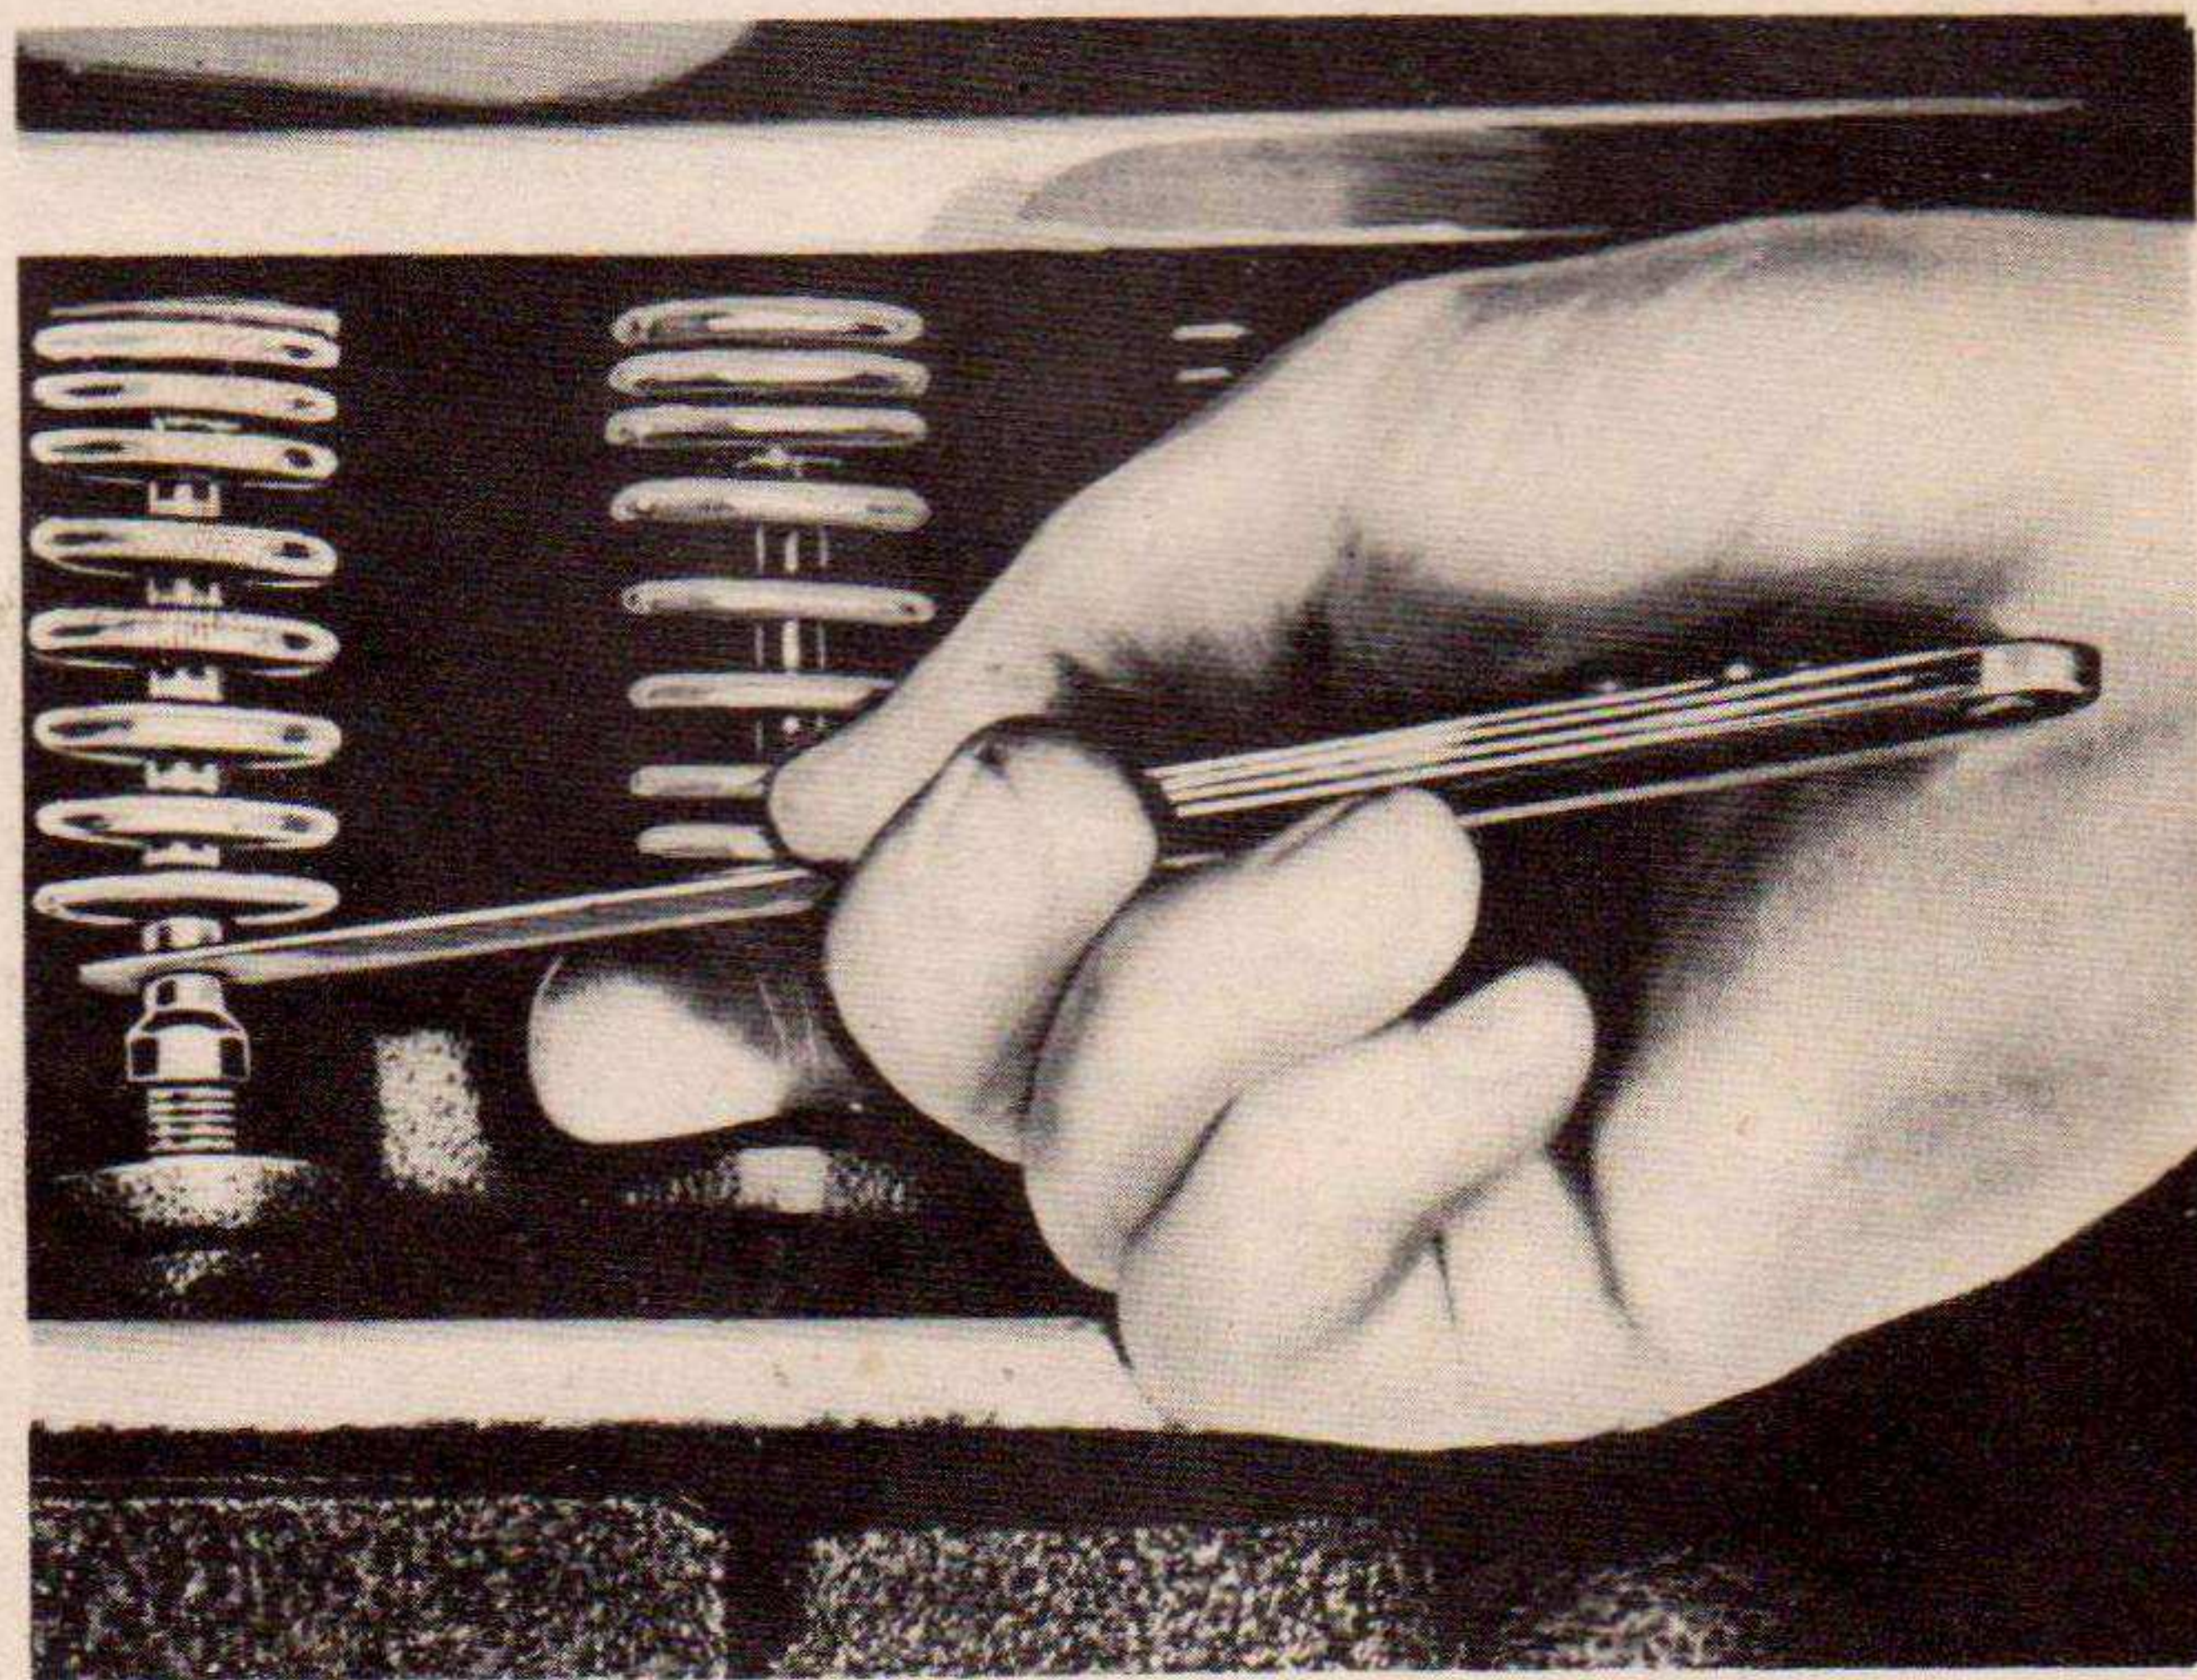

FIG. 17 VALVE TAPPETS AND SPRINGS
(6) *Valve Tappets.* — Disconnect the tubes from the valve spring cover, remove the cover screws and the cover. Crank the engine slowly by means of the hand crank and note when the intake valve of No. 1 cylinder begins to open. Then turn the crank one full revolution further. This places the camshaft in the correct position for checking or readjusting both tappets of No. 1 cylinder. Check the clearances with a feeler gauge, (Fig. 17). The
up against the cylinder block, (Fig. 17). Then install the valves, each in its proper seat. Using a valve spring compressor, raise the valve springs on those valves which are in closed position and insert the valve spring locks with a valve key inserting tool. If no key inserting tool is available, hold keys in place by sticking them to valve stem with grease. Crank engine until other valves are closed and install the remaining keys.
(2) Adjust the valve tappet to valve stem clearance to .014", (Fig. 17). Remove cloth or waste from valve chamber.
(3) Clean top of block and pistons of all foreign matter and install cylinder head gasket. Clean carbon from cylinder head and wipe off all foreign matter, then install over studs on cylinder block. Install oil filter bracket. Install cylinder head